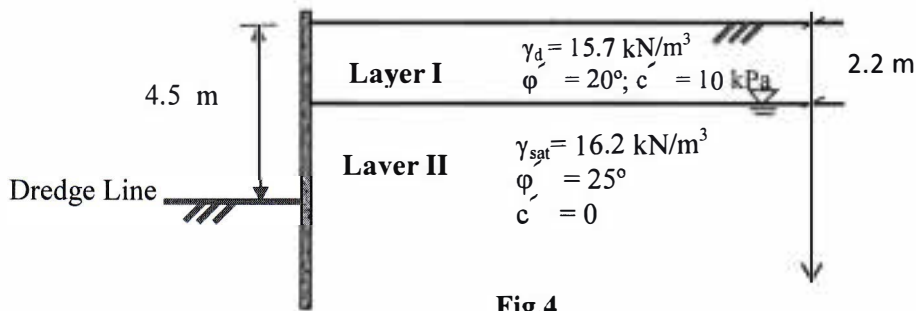

Fig.4
- (i) Compute the magnitude of lateral force (per unit length of the wall) acting on the earth retaining structure, shown in Fig. 4. 8